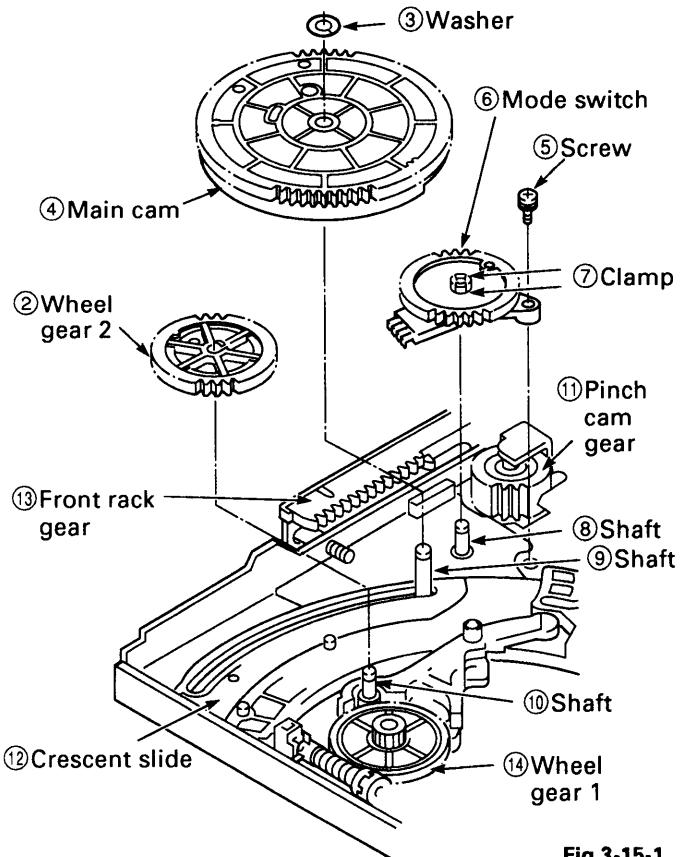

Fig.3-15-1
3-15. WHEEL GEAR 2, MAIN CAM AND MODE SWITCH (See Figs.3-15-1 and 3-15-2)
3. Beforehand, remove the soldering from the soldered part of the MC-1 PWB assembly, in order to prevent the mode switch ⑥ being warped. Solder the mode switch ⑥ after tightening the screw ⑤ (See Fig. 3-15-1).